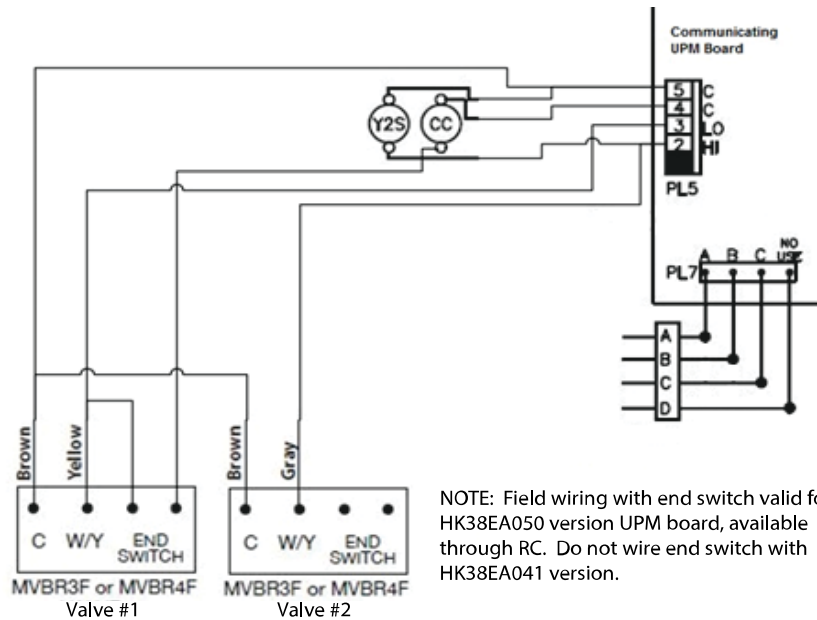

Fig. 20 – Low Voltage Wiring of Field Installed MVBR3F/ MVBR4F Valve(s)
NOTE: Refer to Fig. 20. Wiring kit #4129 is recommended for easy 24 volt connection staging solenoids with compressor.
NOTE: Optional wiring if wiring kit #4129 is not used with non-communicating thermostat. See Fig. 20 for optional End Switch wiring.
1. The end-switch of the MVBR3F or MVBR4F may be wired to the compressor contactor (as shown in optional wiring Fig. 20). This could be helpful with some applications where long delays between equipment starts are expected, and entering water flow rate is borderline low. Long delays will cause these valves to open slowly due to the required time to fully energize the valve electronics. If the end-switch takes longer than 60 seconds to make, not energizing the compressor contactor, the equipment will error with code 47 (No 230V to unit). MVBR3F or MVBR4F are designed to fully open before 60 seconds.